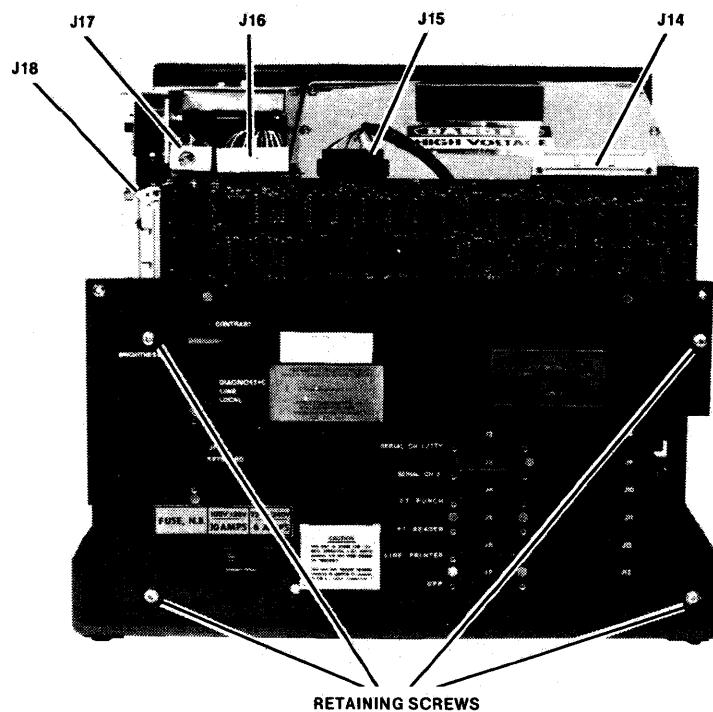

Figure 5-8. Mainframe Rear Panel
- Remove mainframe top cover. Refer to figure 5-8 and carefully disconnect connectors J14 through J18 from mating connectors on top edge of IOC assembly.
- Remove the four rear panel retaining screws shown in figure 5-8. Gently pull rear panel away from mainframe chassis to access rear of connectors J8 and J9.
- Reconnect cables to connectors J14 through J18 on IOC assembly. (Refer to figure 5-8.) Replace mainframe top cover.
- d. Refer to figure 5-8 and carefully disconnect connectors J14 through J18 from mating connectors on top edge of IOC assembly. Remove the four rear panel retaining screws. Gently pull rear panel assembly away from mainframe to access rear of connectors J8 and J9.